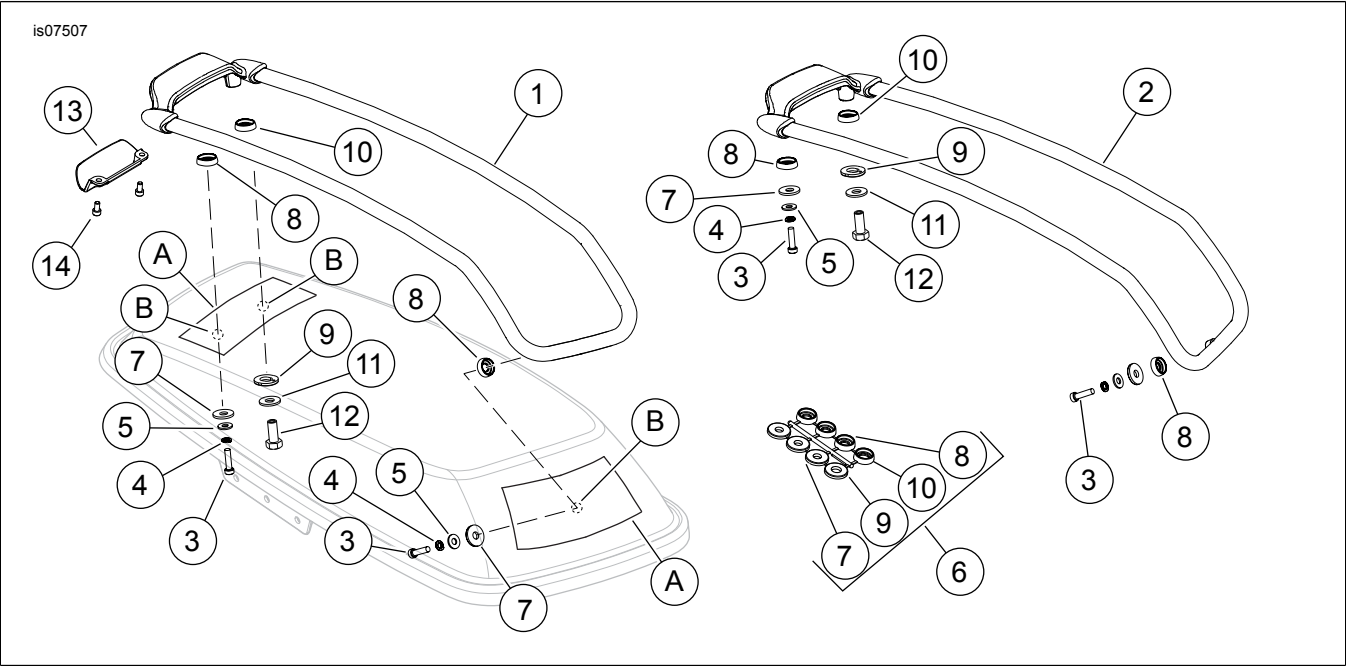

Figure 1. Service Parts: Air Wing Saddlebag Rail Kit
See Figure 1 and Table 1.
2. See Figure 1. Locate the three drill points (B) on the inside of the saddlebag lid.
3. Place a piece of 50 mm (2 in) wide masking tape (A) on top of the lid over the drill points. The tape will help prevent paint chipping.
5. Enlarge the holes for screw (3) with a 7/32 in (5.5 mm) drill bit.
6. Enlarge the hole for screw (12) with a 3/8 in (10 mm) drill bit.